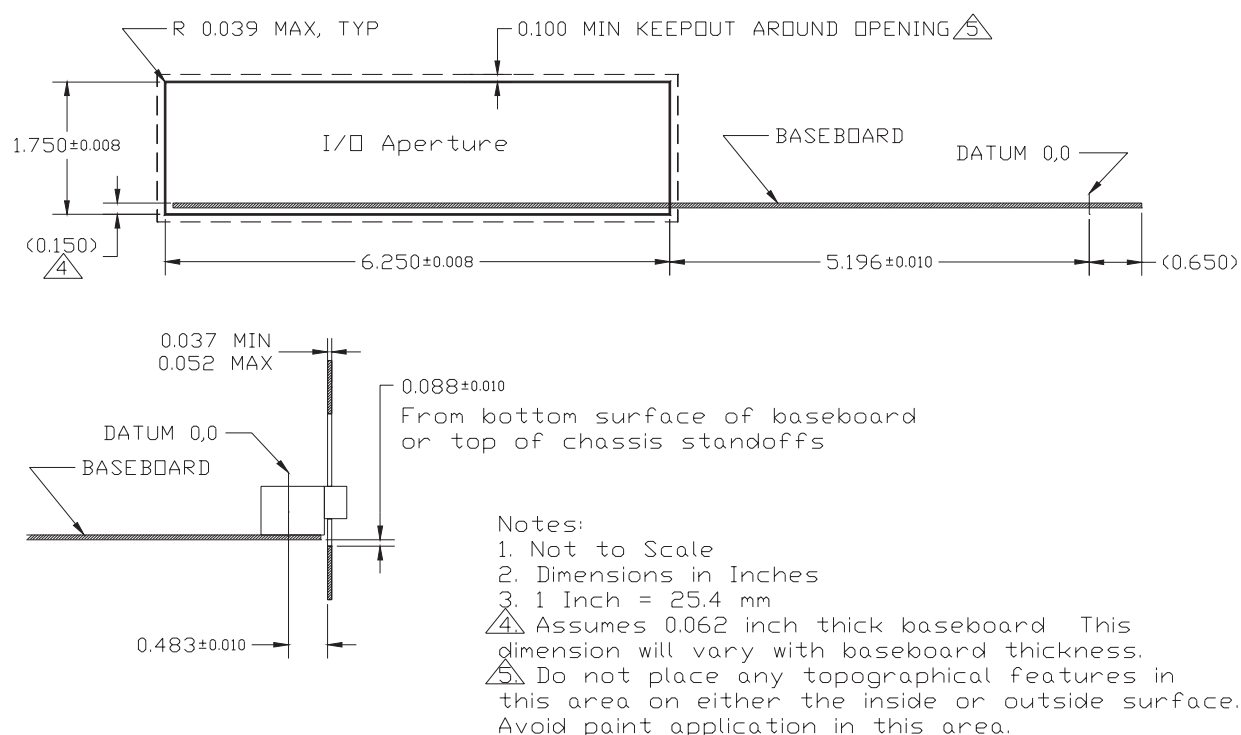

Figure 4. Chassis Back Panel I/O Aperture Requirements
- The corners of the I/O aperture can be rounded to a maximum radius of .039" (0.99mm) (Figure 4). This allowable rounding of the corners helps case manufacturers extend the life of their hard tooling while still complying with the specification.
- The 0.1" (2.5mm) keepout zone around the I/O aperture area is required in an ATX 2.2-compliant chassis (Figure 4). This allows ATX 2.2-compliant I/O shields to fit into ATX 1.1 or 2.2-compliant cases. The keepout area is needed for the shield attachment points. Avoid paint application in this area.